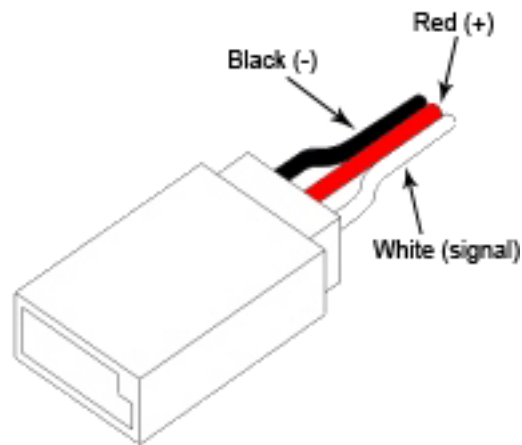

Figure 2 – RCNC connector pinout
8. Connect your Electronic Speed Control (ESC) to the 3 pin connector on the RCNC, paying close attention that the pinout of your male ESC connector matches that of the RCNC connector. See Figure 2 for the RCNC connector pinout. Depending on the brand of ESC purchased, the connector wires may be different colors from that used on the RCNC – typical pinouts are shown in Figure 3. **Connecting the + and – wires in reverse will destroy the RCNC!**